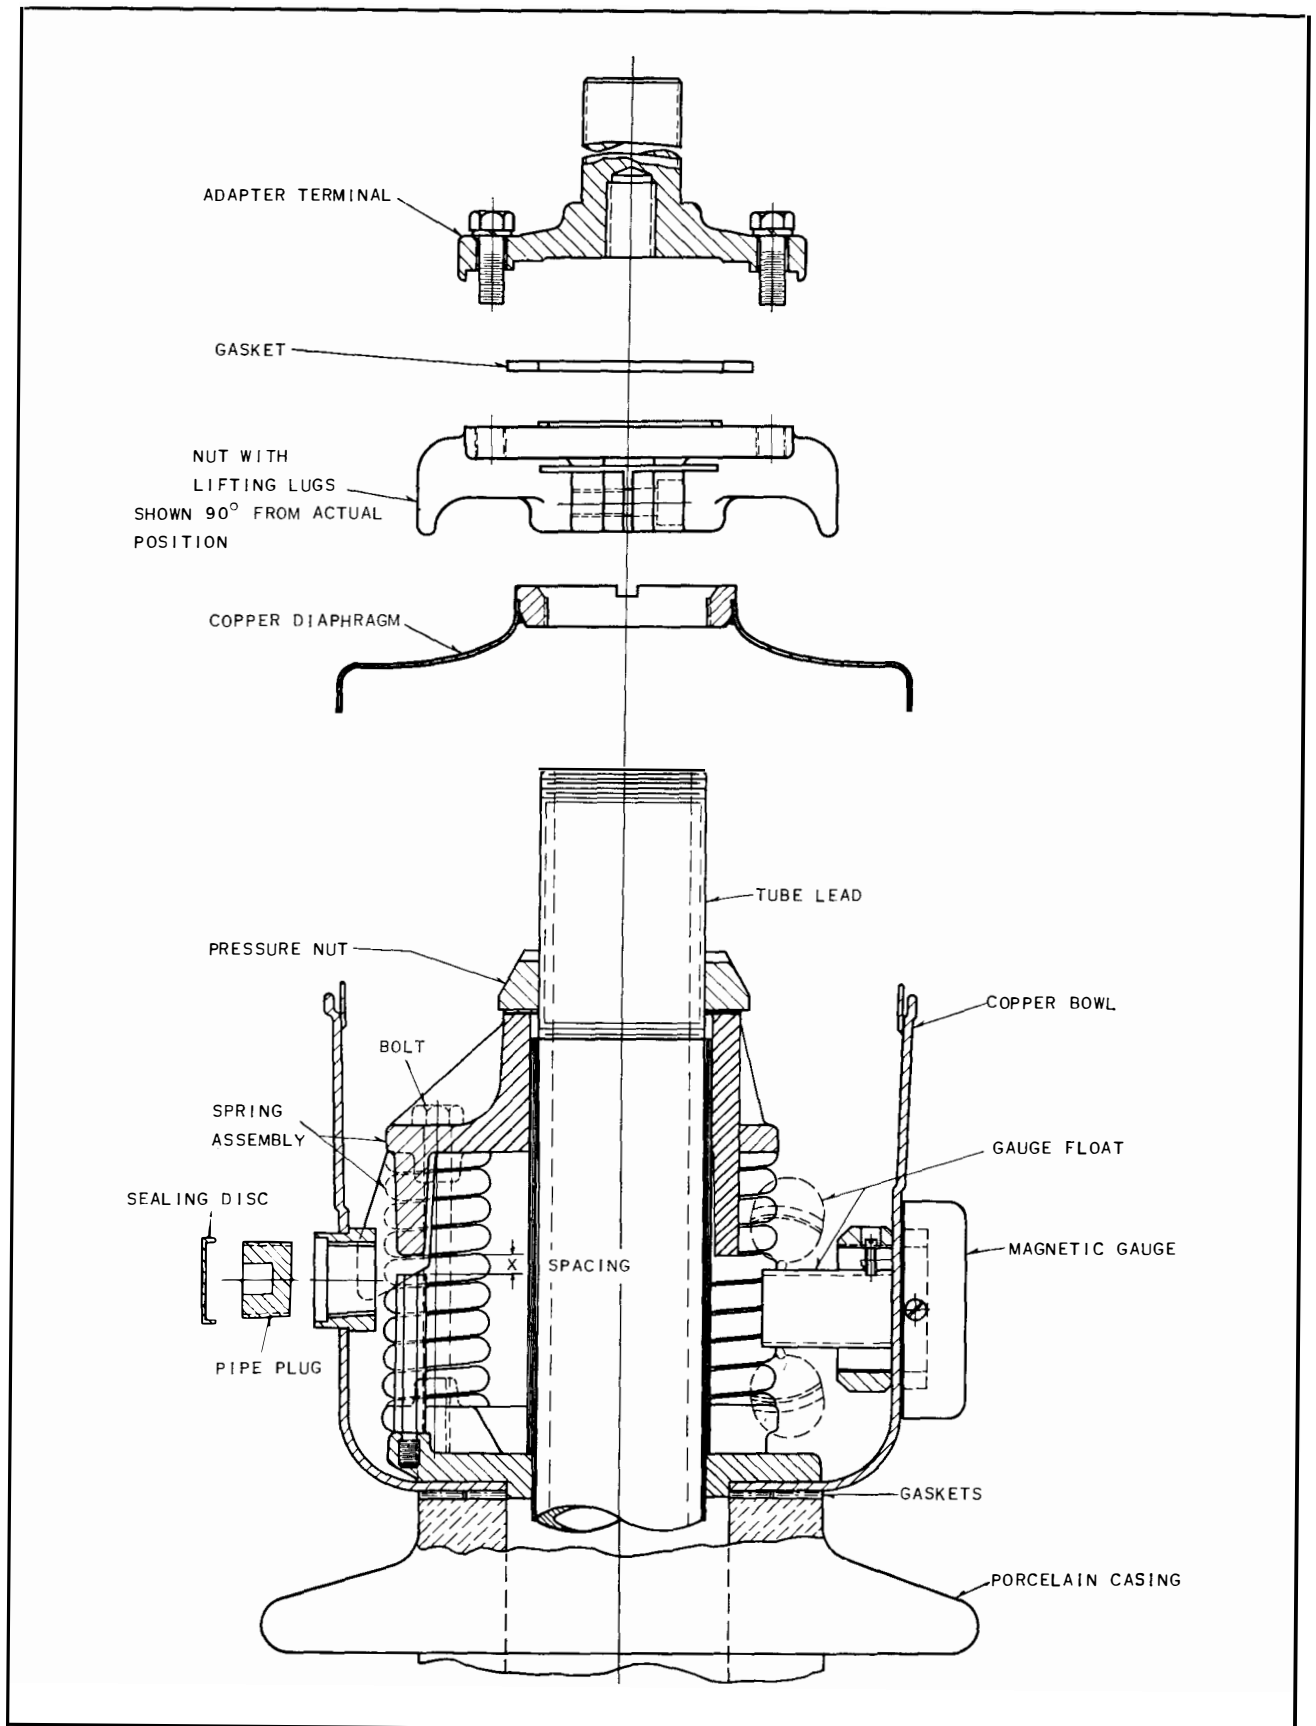

FIG. 7. Sectional View—Bushing Expansion Bowl
4. After removing the adapter cap, unsolder joints at lifting lug, copper tube and diaphragm shown in Fig. 7.
5. For bushings with copper expansion bowl—(see Fig. 7), after copper diaphragm is removed insert bolts and tighten to compress springs. Unscrew pressure nut, remove gauge float, and take spring assembly from cap.
7. Adjust bolts on cap spring to give approximately $\frac{1}{8}$ " less than measured between gauge rods (x-spacing) before dismantling the bushing. Place the cap in position and tighten with pressure nut (Fig. 7). Remove bolts on spring assembly. It may be necessary to repeat the operation of clamping the springs and adjusting pressure nuts to obtain the desired setting on the gauge rods. Contact your Westinghouse representative if there are any questions about setting of gauge rods or compressing springs.
8. Solder joints at lifting nut, diaphragm, etc., as shown in either Fig. 7 to seal cap.